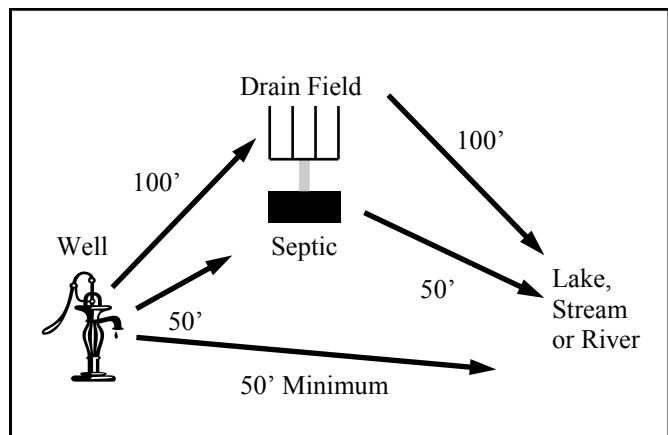

Figure 3-1 Panhandle Health District minimum separation distance requirements between drinking water wells and possible sources of contamination.
Idaho Department of Water Resources (IDWR) Well Construction Standard Rules requires that constructed wells must meet all site and distance requirements set forth by PHD and IDEQ. Idaho Rules require a minimum distance of 100 feet from a septic drainfield to a well (Figure 3-1). This separation distance allows for natural protection provided by the soil. Soil type will ultimately determine a safe distance. For more information please contact PHD (Resource Directory page 3-7).
- Follow at least the required minimum distances from potential contamination sources that are set by PHD, as well as any other local ordinances, when locating your new well (Figure 3-1 on page 3-2).